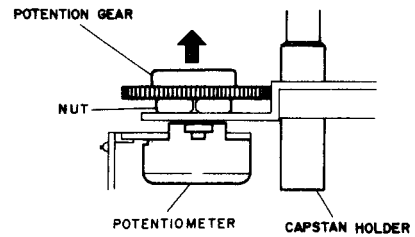

Fig. 4-13
- 4) Remove the potention gear. Unscrew the position potentiometer securing nut. (See Fig. 4-13.)